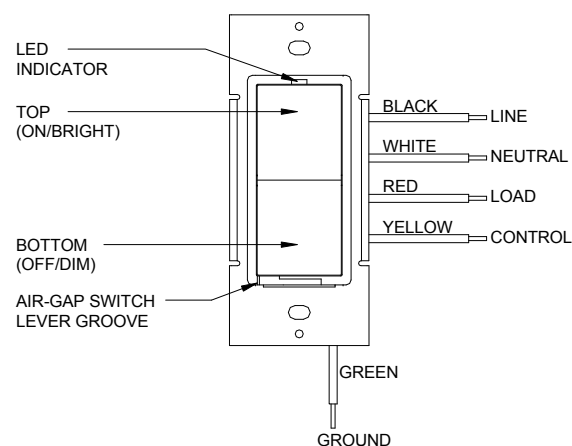
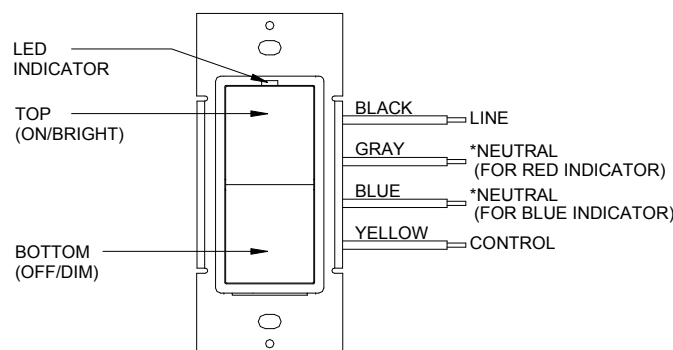

Figure 1 - HAI UPB™ Wall Switch
Figure 2 – HAI Auxiliary Switch
The HAI UPB™ Wall Switch (Figure 1) allows for local control of lighting by using the Decora-style rocker switch. It also incorporates the UPB™ two-way powerline communication technology that gives it the ability to be remotely controlled by UPB™ compatible controllers. The HAI UPB™ Wall Switch is also capable of transmitting UPB™ messages (including current light level) when the rocker switch is turned on, turned off, brightened, or dimmed.
The 37A00-1 HAI Auxiliary Switch (Figure 2) is an optional companion device used with the HAI UPB™ Wall Switch for multi-way circuits. The HAI Auxiliary Switch has a Decora-style rocker switch that controls the lighting load in the exact same manner as the Decora-style rocker switch on the HAI UPB™ Wall Switch.
- Refer to Figures 1 and Figure 2 to determine the wire colors for each connection.
The HAI UPB™ Wall Switch has an air-gap switch lever that will remove all power from the load for safe switch installation and light bulb replacement. To activate the air-gap switch, using your fingernail, pry open the lever at the groove (Figure 1). Swing the lever fully open so that it is perpendicular to the bottom rim (Figure 4). After servicing, push the lever fully closed so that it is parallel to the bottom rim. The lever must be pushed fully closed for normal operation.